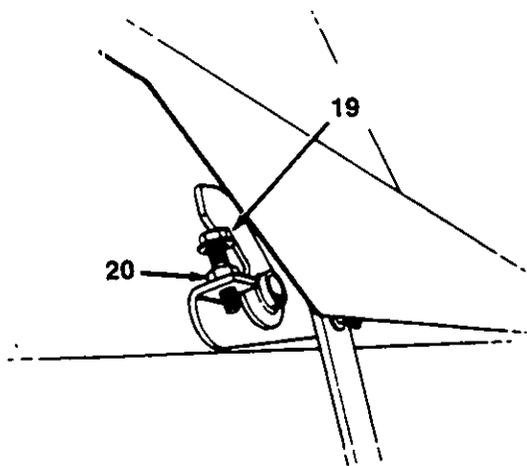

FIGURE 12.
3. If adjustment is needed, loosen the hex nut on the adjusting screw, located under the right side of the frame. See figure 12. Move the adjusting screw inward to lower the right side of the deck, or outward to raise the right side of the deck.